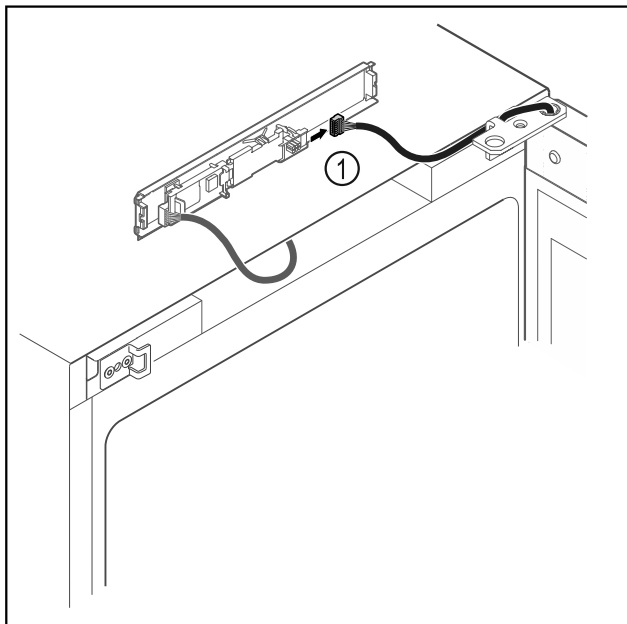

Fig. 20
- ▶ Disconnect the plug Fig. 20 (1) from the circuit board.